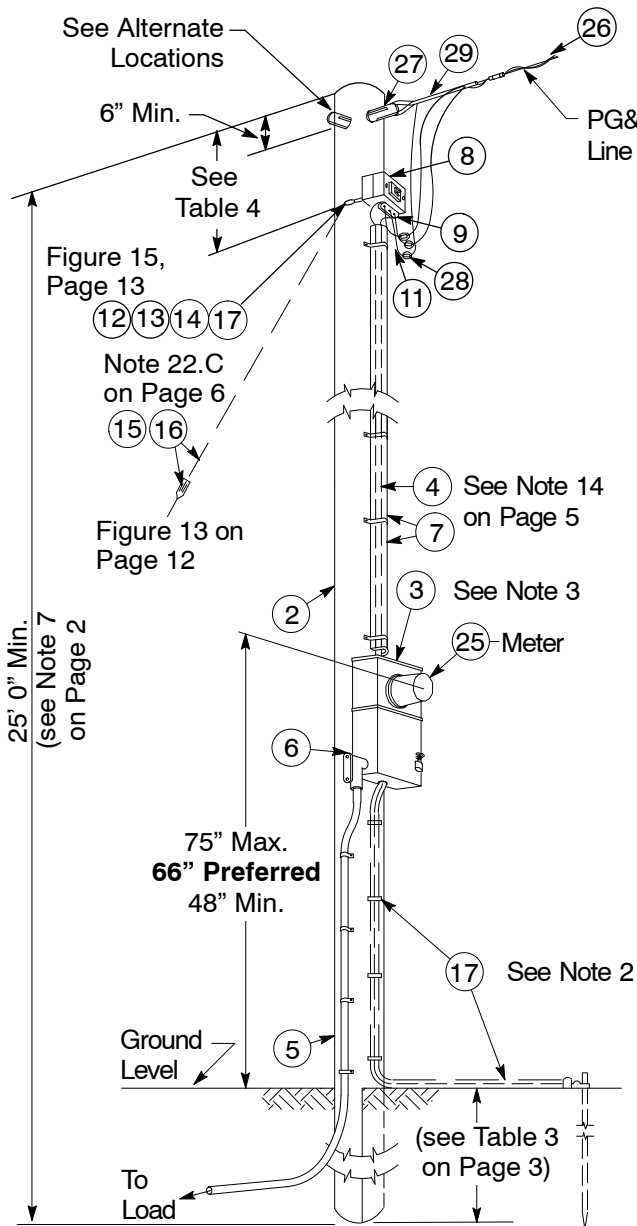

Figure 5
- B. Permanent Service Poles: Anchor guy only as shown in Figure 13 on Page 12. See Figure 5 on Page 10 for the correct placement of guy.
See Figure 5 and Figure 6 on Page 10